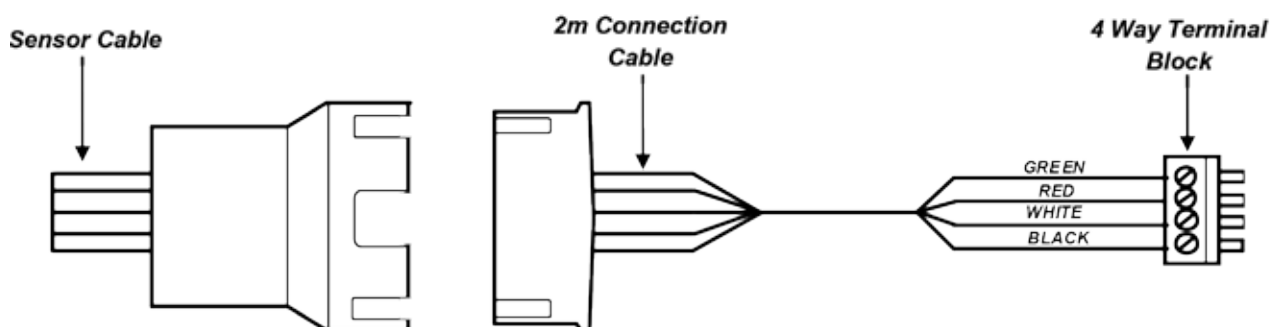

Figure 49 - Personnel Sensor 4-Way Terminal Block
3. Plug the 4-way terminal block into the Auto-Sash Control Unit. See wiring schematics in Section 3.10 - Auto-Sash System Control Box - General Wiring Diagram and Figure 49.